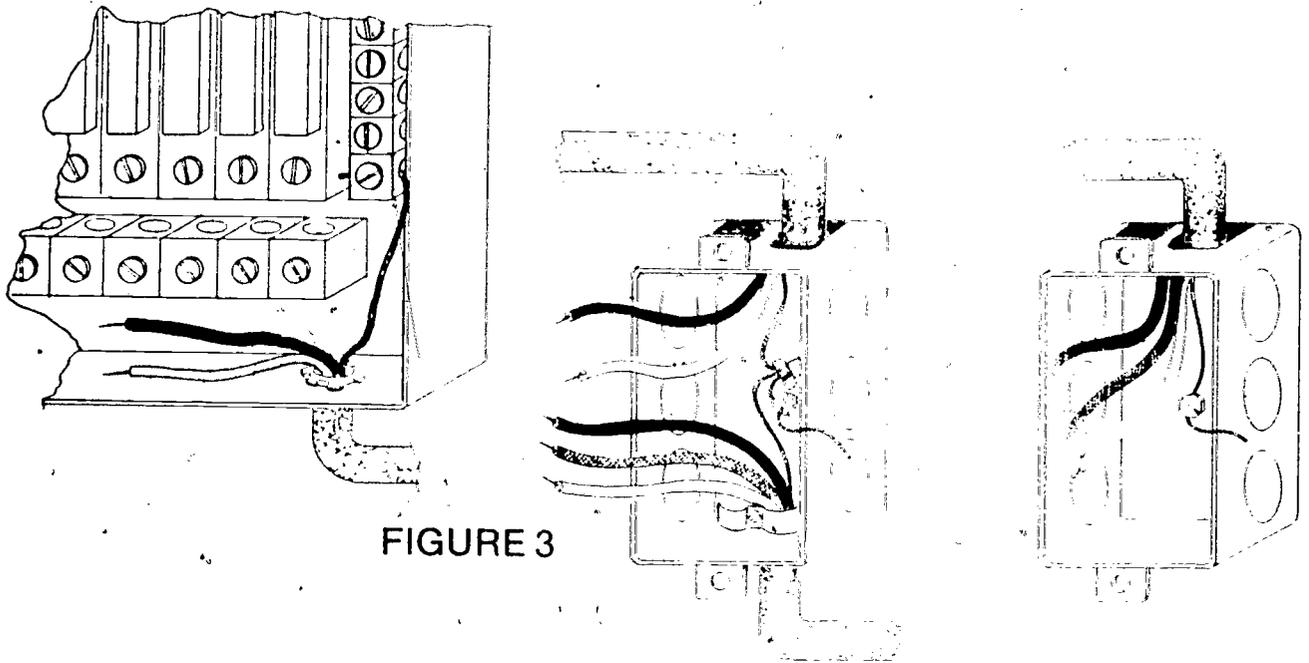

FIGURE 3
J. Connect equipment grounding conductors (Figure 3)